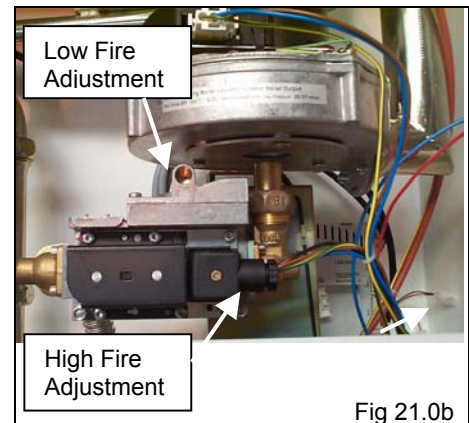

Fig 21.0b
- Check the CO2 levels recorded against those listed in the adjacent table. If the CO2 levels are not as listed, adjustments to the gas valve 'High Fire' and/or 'Low Fire' will be required. See fig 21.0b for adjustment locations.
- To adjust the HIGH FIRE setting, use the '+' or ▲ buttons to set the controller to 100% burner output. After the burner has stabilized, adjustments can be made to 'High Fire' adjuster on the gas valve (clockwise to decrease, anti-clockwise to increase the CO2). After each adjustment, let the burner stabilize for a minute, then check the levels again. See Fig 21.0b. Continue until the CO2 levels are as listed in the adjacent table.
- n) To adjust the LOW FIRE rate, use the '-' or ▼ buttons to set the controller to 0% burner output. After the burner has stabilized, adjustments can be made to 'Low Fire' adjuster on the gas valve (clockwise to increase, anti-clockwise to decrease the CO2). After each adjustment, let the burner stabilize for a minute, then check levels again. See Fig 21.0b. Continue until the CO2 levels are as listed in the table above.